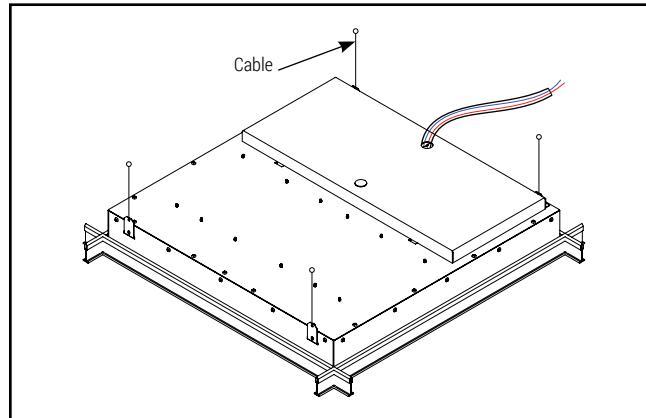

Figure 6.
9. Connect Wire\Cable with EQ clip to secure fixture in the upper Plenum (Figure 6.)